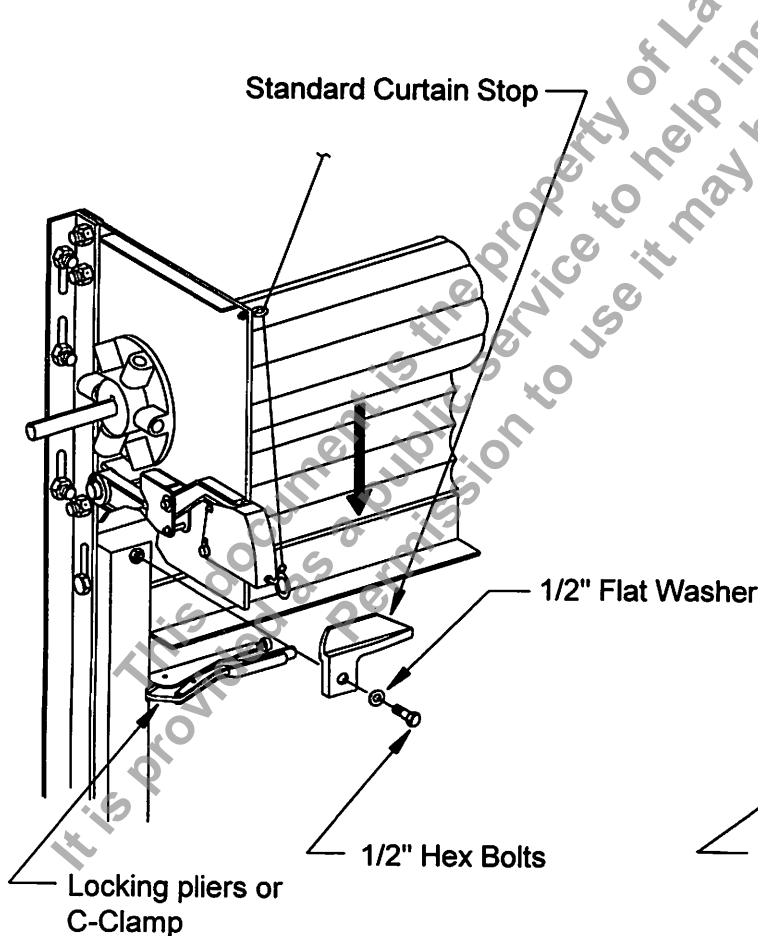
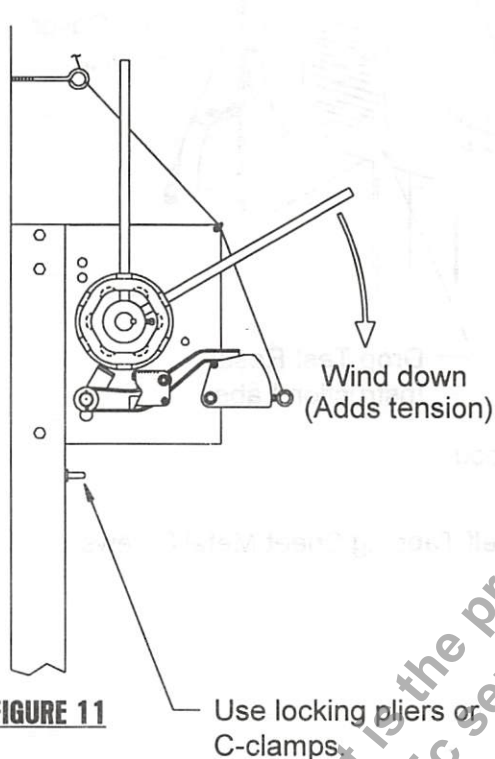

FIGURE 10
FIGURE 11
Step 10. Lower the bottom bar of the curtain into the guides. Put locking pliers or a C-clamp on *both* guides 3" from the top of the guide to stop the downward travel of the door. Attach the curtain stops to the top of each guide. See figures 10 or 10A.
Door must be clamped in the full open position before winding the springs. See figure 10. *Never attempt to wind or adjust tension with door in the down position.* Use two 3/4" round solid steel bars 18" long (min.) for winding tension on the tension wheel. See figure 11. Always wind in downward direction as shown to add tension.
Door must be clamped in full open position before attempting to wind or adjust spring tension. See figure 10 and step 11.
If the door did not function properly for the drop test, engage the gearing by reconnecting the sash chain as shown in figure 7 and raise the door to the open position. Place the vise grips on guides as shown in figure 10 and 10A. Adjust the spring tension by putting more tension if door closed too fast or releasing tension if door closed too slowly.